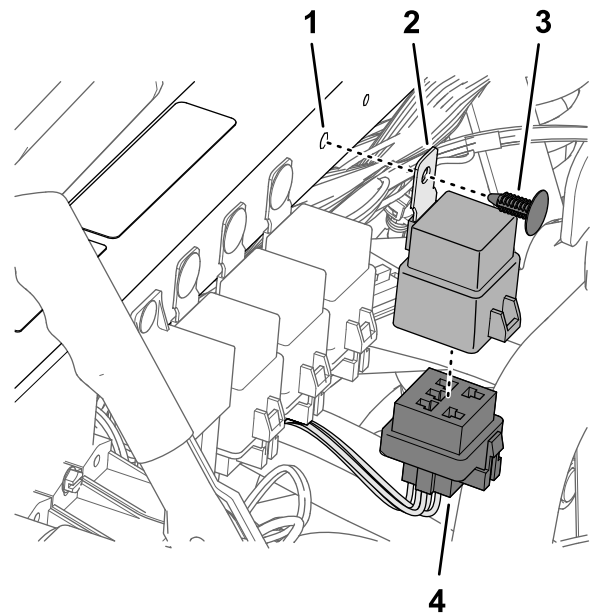

Figure 233
- Connect the 5-pin connector of the relay into the 5-socket connector (Figure 233) of the kit sprayer harness labeled ASC 10 ENABLE RELAY.
- Align the hole in the mounting tab of the relay with the hole in the shock-support tube, and secure the relay to the tube with a push-in fastener (Figure 233).